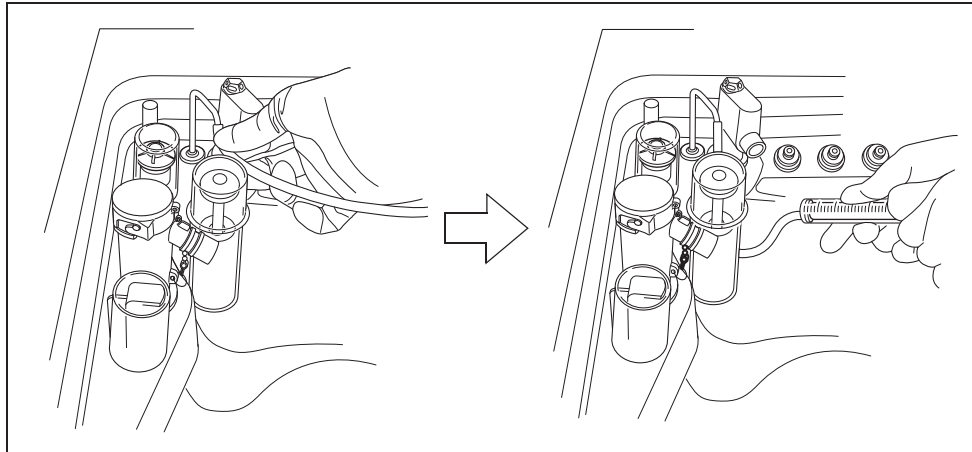

Figure 9.23
- 19** To rinse the line with water, connect the tube attached to the syringe to the detergent nozzle and suction more than 50 ml of sterile water with the syringe. (See Figure 9.23)
- 20** To remove rinse water from inside the line, connect the tube attached to the syringe to the detergent nozzle inside the reprocessing basin. Suction the water with the syringe until no more water comes out of the line. (See Figure 9.23)
- 23** To rinse the line with alcohol, connect the tube attached to the syringe to the detergent nozzle and suction more than 50 ml of 70% ethyl alcohol or 70% isopropyl alcohol with the syringe. (See Figure 9.23)
- 24** To remove 70% ethyl alcohol or 70% isopropyl alcohol from inside the line, connect the tube attached to the syringe to the detergent nozzle inside the reprocessing basin. Suction the alcohol with the syringe until no more alcohol comes out of the line. (See Figure 9.23)